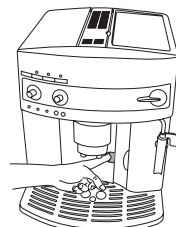

Figure 24
- Open the service door (Figure 24)